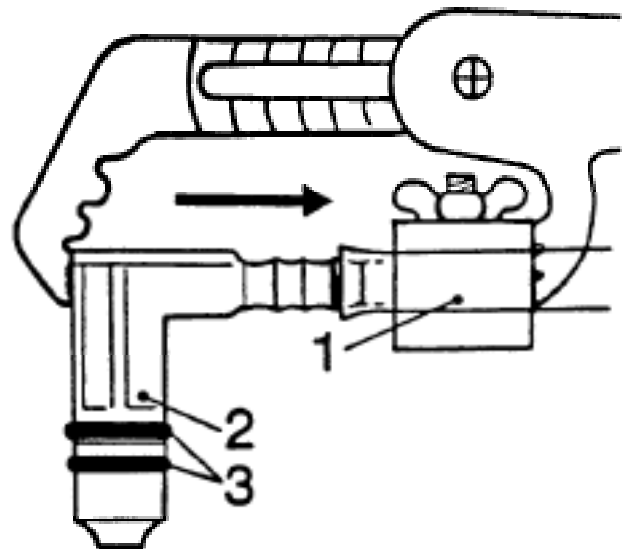

Figure 3. Fitting a check valve
4. Fit special tool P/N 83 94 546 onto the fuel line as shown in Figure 3.
5. Press the new check valve, P/N 41 61766, into the fuel line (Figure 3).